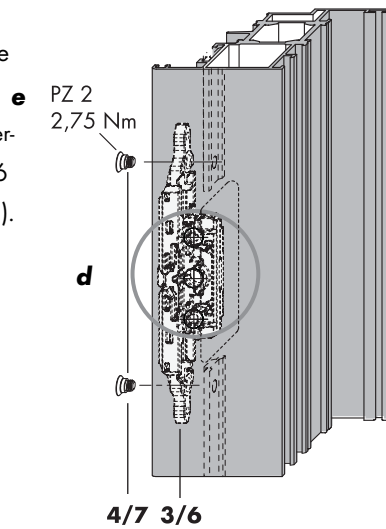

Figure 3
- d** Insert ESG LM M6 / ESG LM FBS M6 (3/6) into the processed section 72 x 15 (Figure 3).
- e** Screw SG LM M6 / ESG LM FBS M6 (3/6) in operating rod punch hole Ø 5.2 using coupling screw M6 (4/7)(PZ 2, torque 2.75 Nm ± 0.25 Nm) (Figure 3).